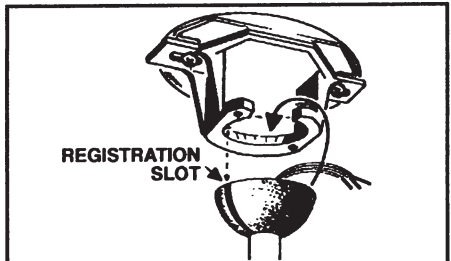

FIG. 10
**Step 6.** Now lift motor assembly into position and place downrod ball into hanger bracket. Rotate until the check groove has dropped into the registration slot and seats firmly. (Fig. 10). Rod should not rotate if this is done correctly.